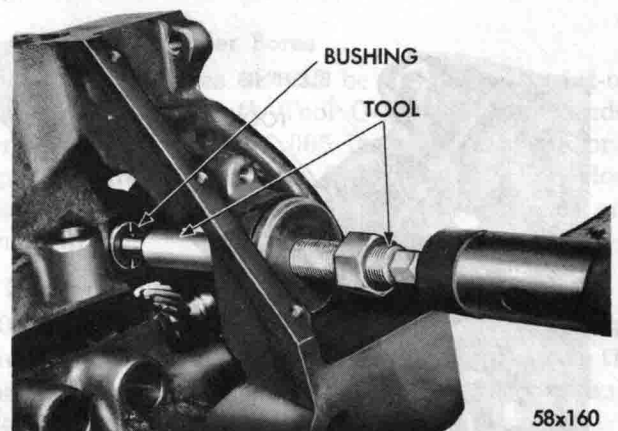
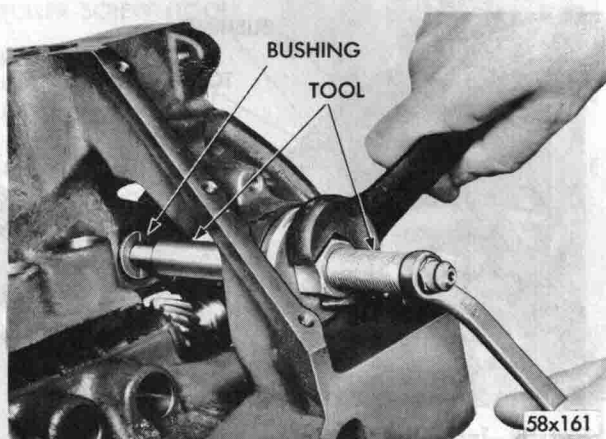

Fig. 38—Installing Distributor Drive Shaft Bushing Using Tool C-3053
Fig. 39—Burnishing Distributor Drive Shaft Bushing
(1) Slide new bushing over burnishing end of Tool C-3053 and insert the tool and bushing into bore, as shown in Figure 38.
(2) Drive bushing and tool into position, using soft hammer.
(3) As the burnisher is pulled through bushing by tightening puller nut, the bushing is expanded tight in block and burnished to correct size, as shown in Figure 39. **DO NOT REAM THIS BUSHING.**